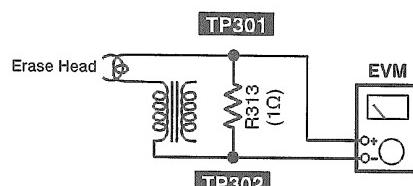

Fig. 7
- Check if the output at this time between the erase current confirmation point **TP301** and **TP302** (the output on both edges of R313) is within the standard value. (Refer to Fig. 7.)